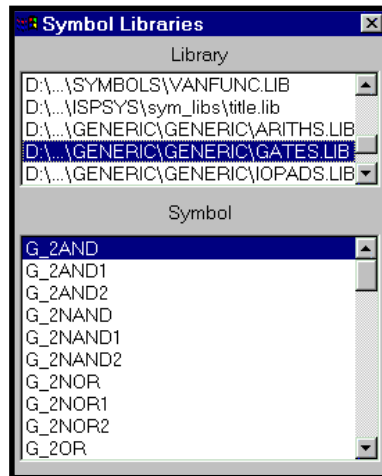

Figure 3-9. Symbol Libraries Window
1. Choose **Add** ⇒ **Symbol** from the Schematic Editor. The Symbol Libraries dialog box (Figure 3-9) appears.